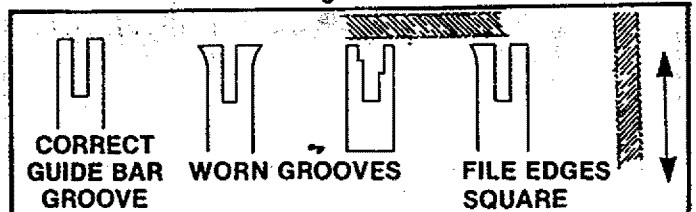

Figure 42
- Remove burrs by filing the side edges of the guide bar grooves square with a flat file. Figure 42.
- Restore square edges to an uneven rail top by filing with a flat file. Figure 42.